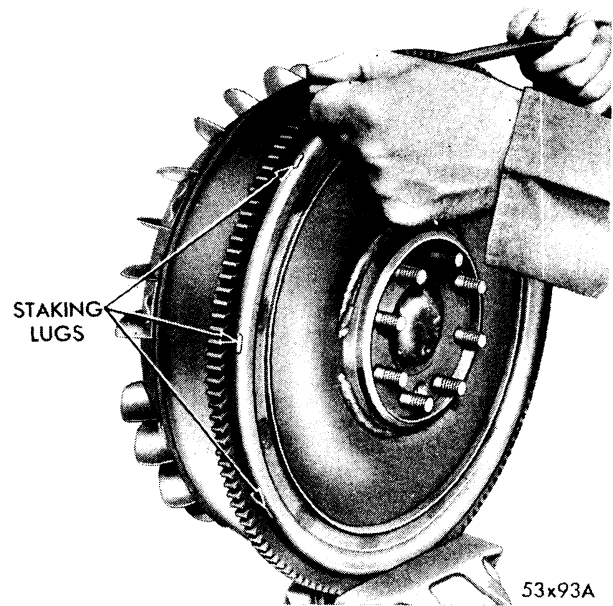

Fig. 69—Removal of Staking Lugs from Torque Converter
- (1) Support the torque converter assembly in a vise. With a file, carefully remove the staking welds which retain the ring gear to the torque converter, as shown in Figure 69.